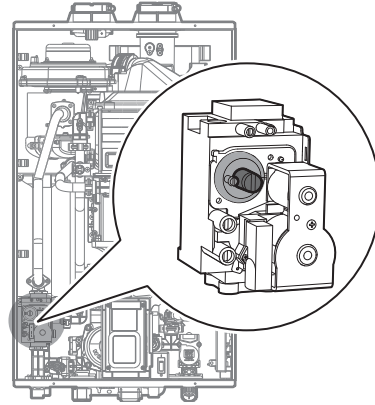

Figure 10
- c. Fully open a hot water fixture and set the water heater to operate at 1-stage MIN mode (refer to page 59). Measure the offset value at low fire and compare it to the values in Table 3. If the offset value is out of range, the gas valve set screw will need to be adjusted. If adjustment is necessary, locate the set screw as shown in Figure 10. Using a $\frac{5}{32}$ in or 4 mm Allen wrench, turn the set screw no more than $\frac{1}{4}$ turn clockwise to raise or counterclockwise to lower the offset value.